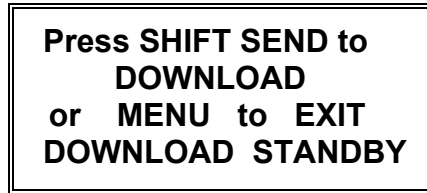

Fig. 3.5a: Download Mode
- Press '5' from the EXTENDED MENU. DOWNLOAD mode appears on the LCD with unit status as STANDBY as shown in fig. 3.5a.